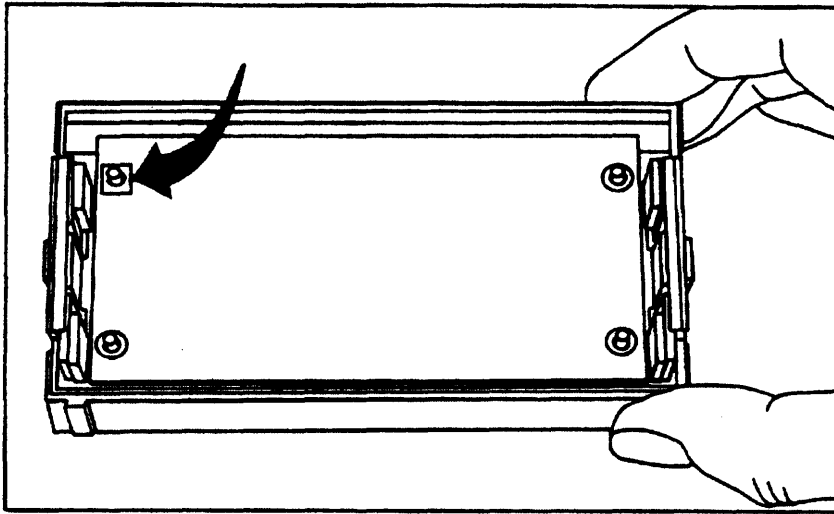

Figure 6-44. Reinstalled PCAs
6. Put the connected PCAs back into the ROM assembly with the operating system PCA on the bottom. That's the only way they will fit in the container. The operating system PCA is slightly larger and has rows of holes across the top and bottom. Position the reference hole (with a square around it) as shown in figure 6-44.